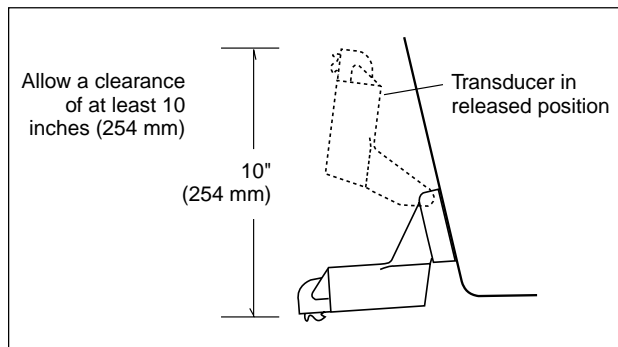

Fig. 2-4
- The bracket has a quick-release mechanism. This may reduce damage by allowing the transducer to flip up if it hits any debris or the bottom. See Fig. 2-4. Allow enough clearance above the transducer so that it can swing upward completely. This is about 10" (254 mm) measured from the bottom of the transom.